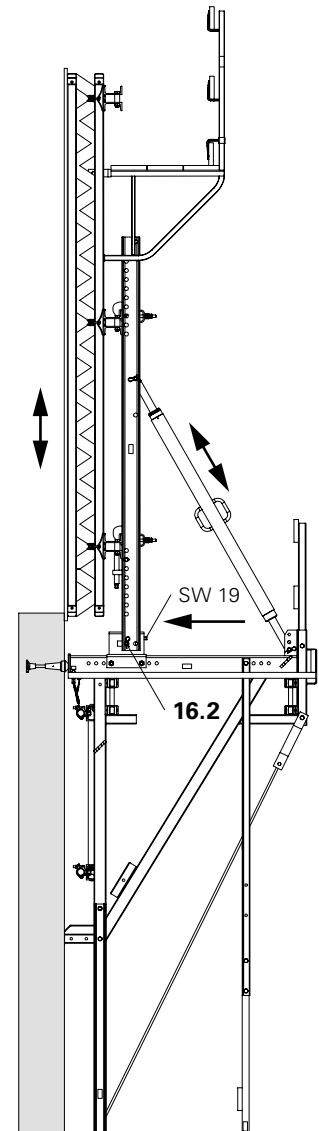

Fig. B2.08
9. Align formwork, see B3. (Fig. B2.08)